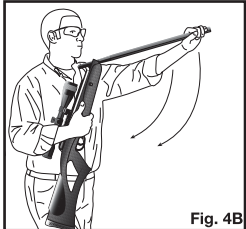

Fig. 4B
- Anchor gun against thigh and pull barrel down as far as it will go to engage the nitro gas piston. (Fig.4B)